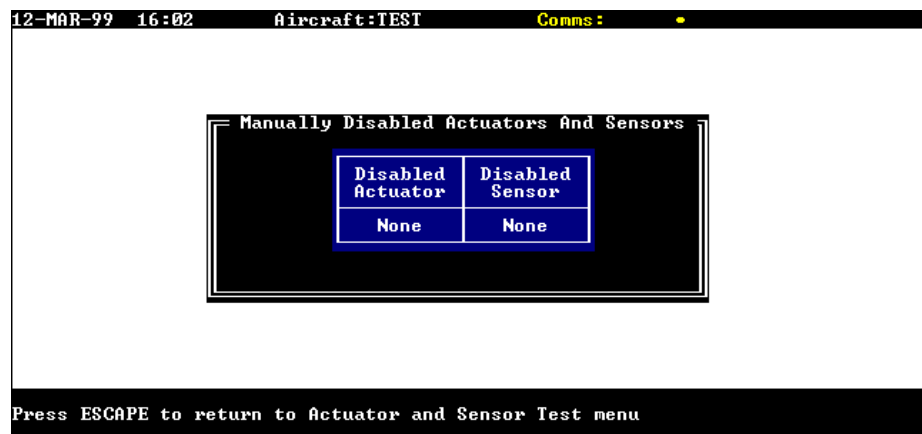

Figure 3.19 – 'Manually Disabled Actuators and Sensors' screen.
- (h) If no previously disabled actuators have been enabled, or if <ESC> is pressed, the MT will show any manually disabled actuators and sensors on the MT display (Ref. Figure 3.19).
If any previously disabled actuators are enabled, the MT will perform an Automatic Actuator and Sensor Test unless <ESC> is pressed within 5 seconds. If you do not complete an Automatic Actuator and Sensor Test then any actuators you have just enabled will be automatically be disabled again. If no previously disabled actuators have been enabled, or if <ESC> is pressed, the MT will show any manually disabled actuators and sensors on the MT display (Ref. Figure 3.19).
If no previously disabled sensors have been enabled, or if <ESC> is pressed, the MT will show any manually disabled actuators and sensors on the MT display (Ref. Figure 3.19).